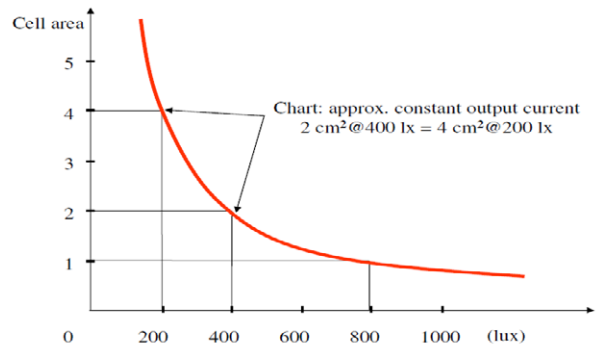

Fig. 6
As a rough, conservative estimation, indoors and for small area amorphous solar panels (a few cm2) an operating current in the range 10 μA/cm2 @ 200 lx (FL) can be considered. This value can be roughly linearly extrapolated using a de-rating factor for lower illumination and/or smaller area. That corresponds e.g. to 4.5 μA/cm2 @ 100 lx. A similar extrapolation approach is shown in Fig. 6.